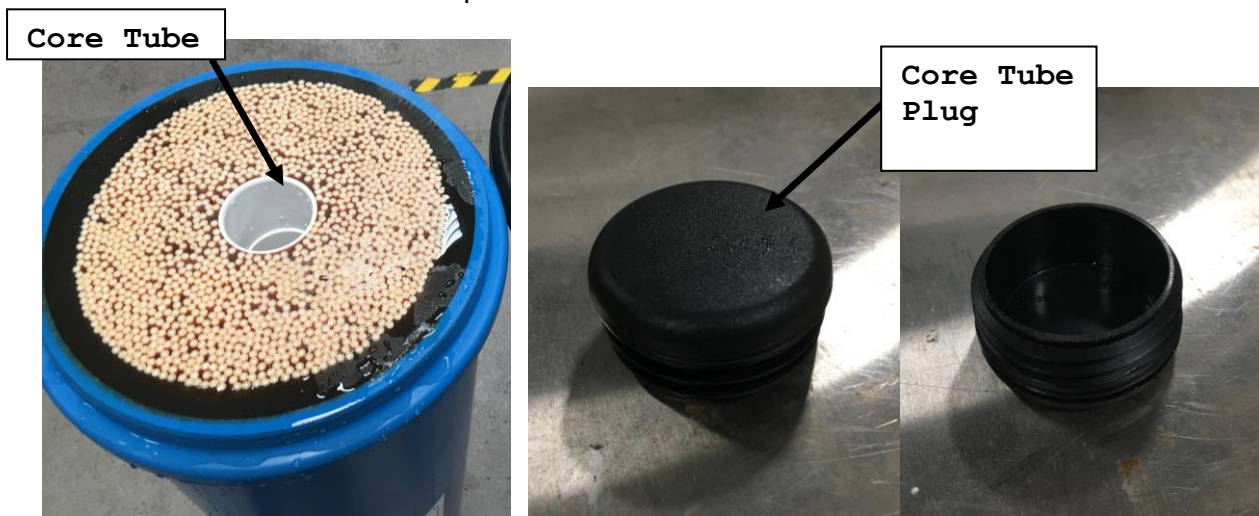

Figure 3: Module standing on end showing where to pour solution.
- D. Plug the elements with the cap shown in figure 3 and reseal vacuum sealed bag to maintain cleanliness, prevent evaporation of any solution.